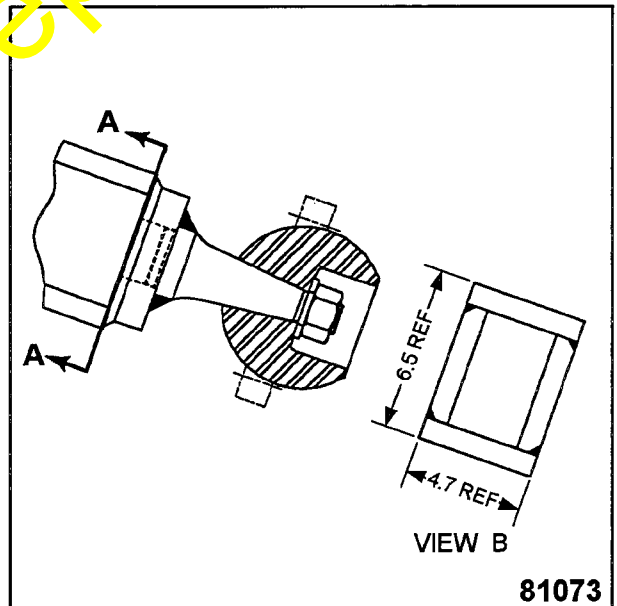

Figure 6
1. Carbon arc old style ball stud weldment from drawbar at A-A, Figure 6.